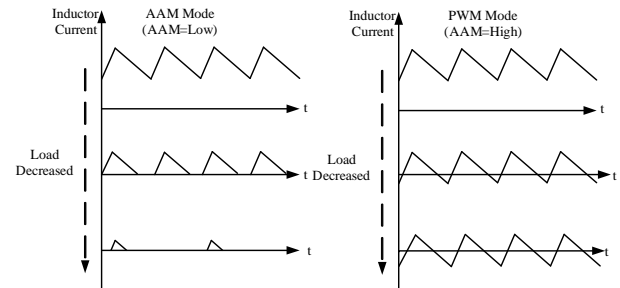

Figure 2: AAM and PWM
Under normal load conditions, the controller operates in full PWM mode (see Figure 2). At the beginning of each oscillator cycle, the top gate driver is enabled. The top gate turns on for a period determined by the duty cycle. When the top gate turns off, the bottom gate turns on after a dead time and remains on until the next clock cycle begins.
The MP2908A employs AAM functionality to optimize efficiency during light-load or no-load conditions (see Figure 2). It is enabled when CCM/AAM is at a low level by connecting an appropriate resistor to GND to ensure that V_{AAM} is no less than 480mV. See Equation (1):